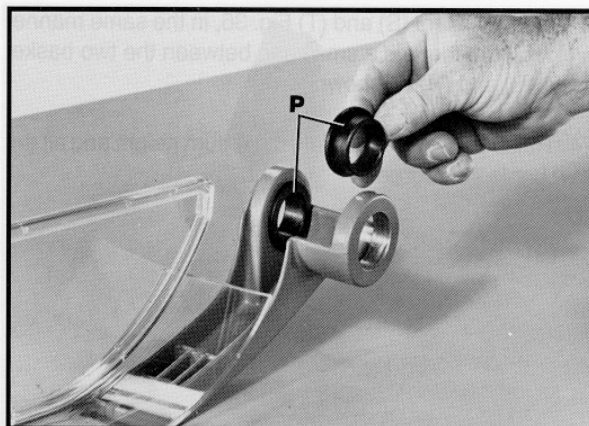

Fig. 32
19. Assemble plastic bushings (O) Fig. 32, to inside of both holes in basket arm bracket, as shown.